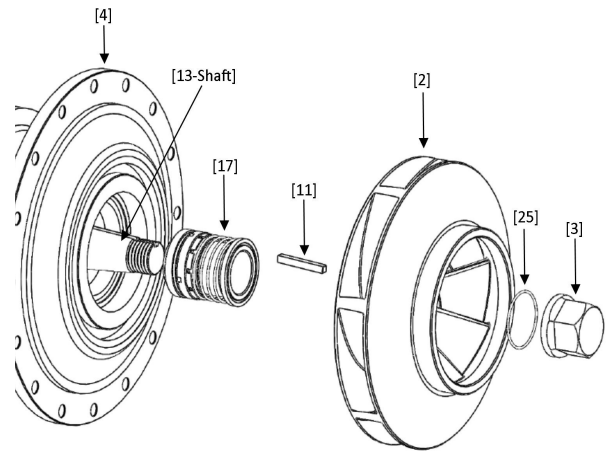

Figure 6: Step 12 and Step 13 Illustration
- 12) Place the impeller onto the drive shaft making sure to align the tapered keyway. The impeller will compress the spring on the seal so some resistance will be felt. Affix the impeller nut by using a torque wrench and a 2 5/8" socket. Hold the impeller in one of its veins using a non-marring rod to stop the impeller from rotating. Torque to 200 ft-lbs. Refer to Figure 6.
- 13) Prepare the pump casing (DV8406507): Press the wear ring (DW8206777) into its respective place in the casing. Place the large gasket (GX8206611) onto the large opening (opposite the inlet flange). Refer to Figure 6.